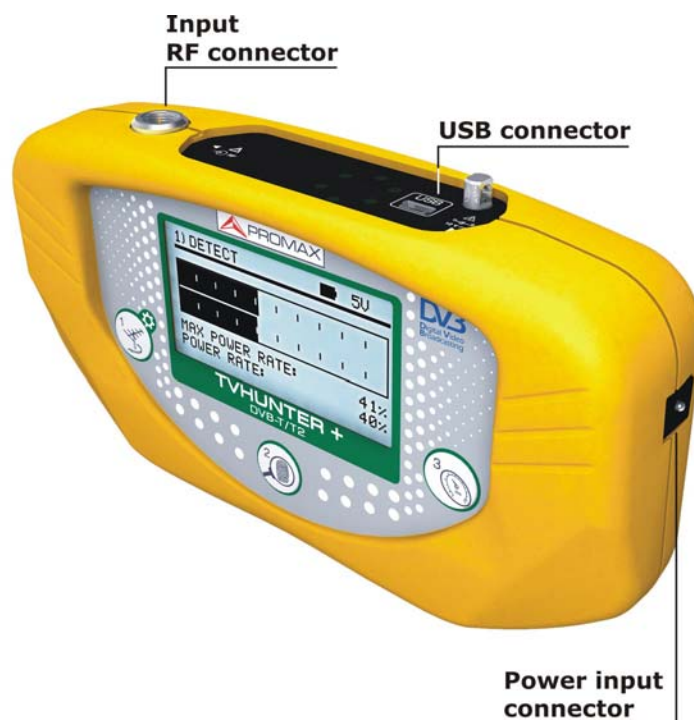

Figure 6. Side panels.
- 1 Turn the **TVHUNTER+** off and connect the mains adapter to the external power connector  [4] (see Figure 6.-) at the right side panel.
- 1 To fully charge the battery, connect the mains adapter to the external power supply input  [4] (see Figure 6.-) with the TVHUNTER+ switched off.